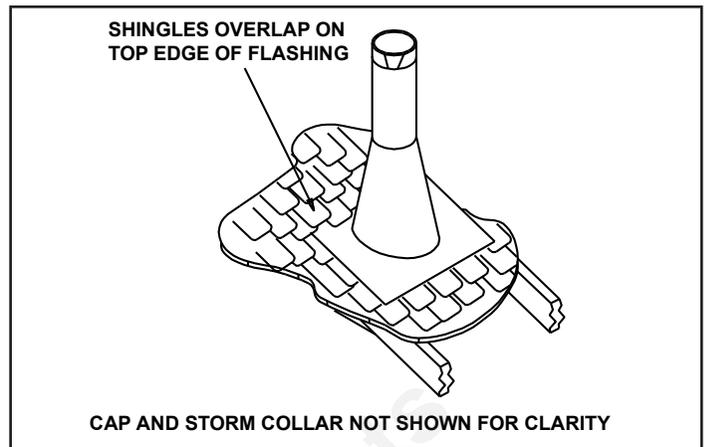

Figure 7.23
- (2) Whenever possible, use 45° elbows, instead of 90° elbows. The 45° elbow offers less restriction to the flow of flue gases and intake air.
Step 6 - Slip the flashing over the pipe section(s) protruding through the roof. Secure the base of the flashing to the roof with roofing nails. Ensure the roofing material overlaps the top edge of the flashing as shown in Figure 7.23. Verify that the chimney is the required height above the roof. See roof pitch table, Figure 4.3.